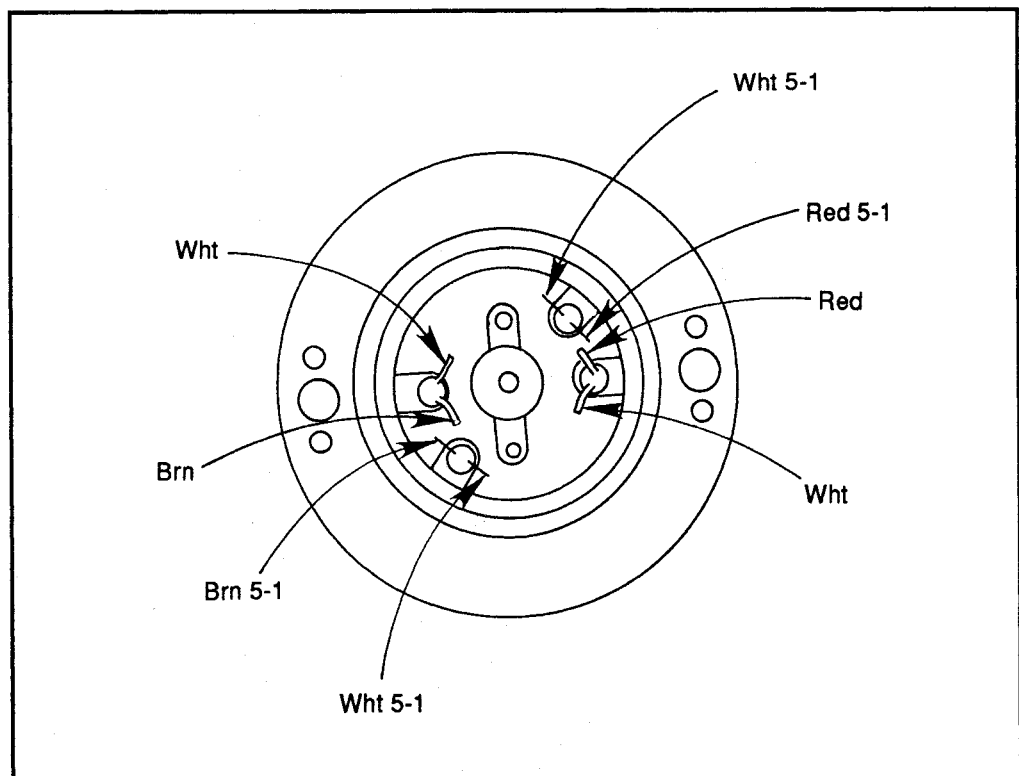

Figure 36: Video head assembly top view
- Check that the leads of the rotary transformer (Figure 36) and the lead colors imprinted on the relay PC board are identical when soldering the leads after replacement.